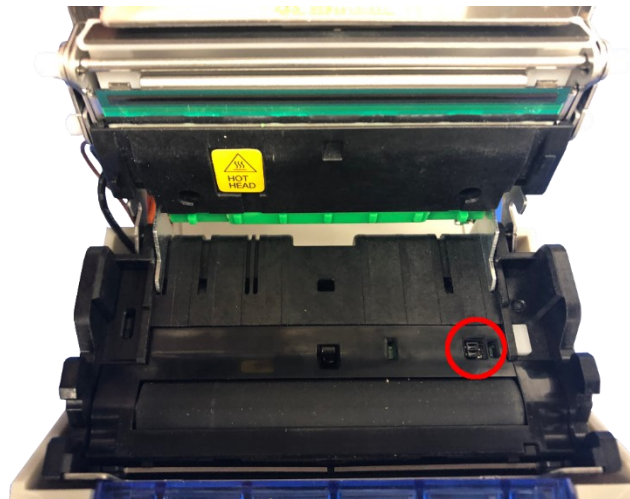

Figure 12: Top of Form Sensors
2. The top of form sensor is located opposite the thermal head platform (Figure 12). The sensor can be cleaned with a cotton swab and isopropyl alcohol. Wait for the alcohol to dry before closing.